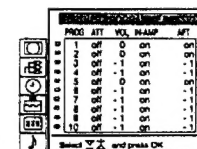

Fig. 17
- 4 Select "Further Programme Preset" with  $\Delta$  or  $\nabla$  and press OK. The FURTHER PROGRAMME PRESET menu appears (See Fig. 17).